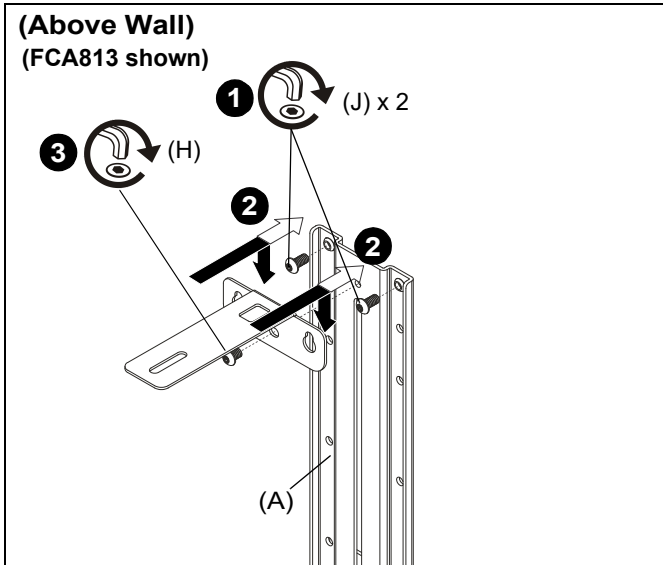
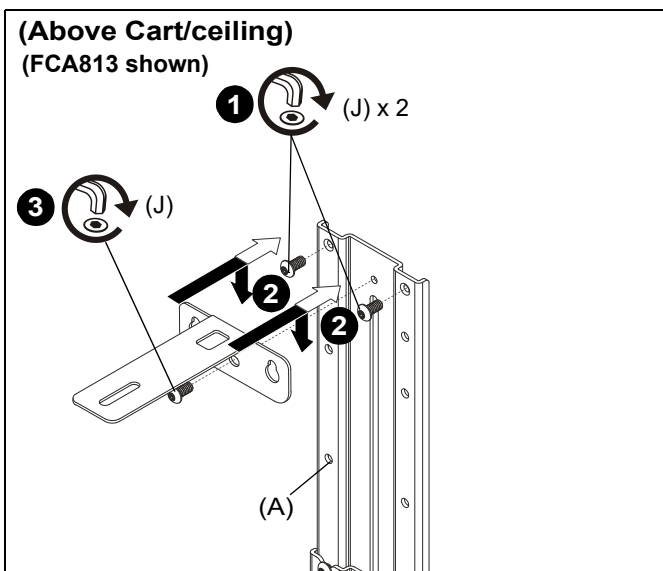

Figure 11
Figure 12
1. Install two 1/4-20 x 1/2" button head cap screws (J) into lowest holes on upright bracket (A). (See Figure 11) or (See Figure 12)
2. Hang shelf (E) onto two screws installed in Step 1. (See Figure 11) or (See Figure 12)
3. Secure upright bracket (A) to shelf (E) using:
- 1/4-20 x 1/4" button head cap screw (H) if installing to wall mount. (See Figure 11)
- 1/4-20 x 1/2" button head cap screw (J) if installing to cart/ceiling mount. (See Figure 12)